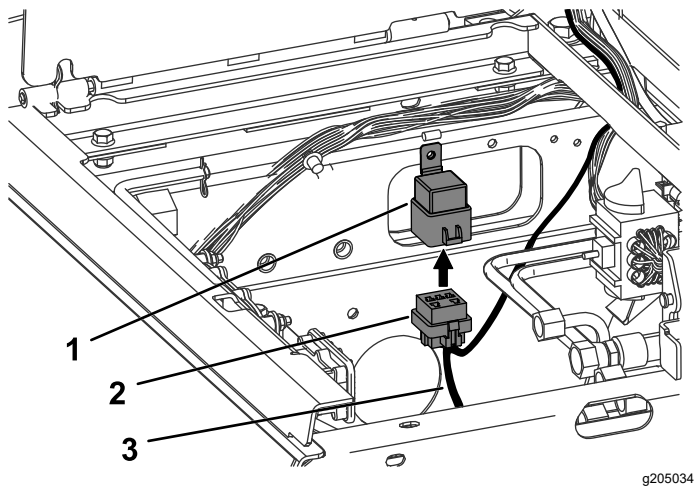

Figure 27
8. Plug the relay connector into the relay as shown in Figure 27.